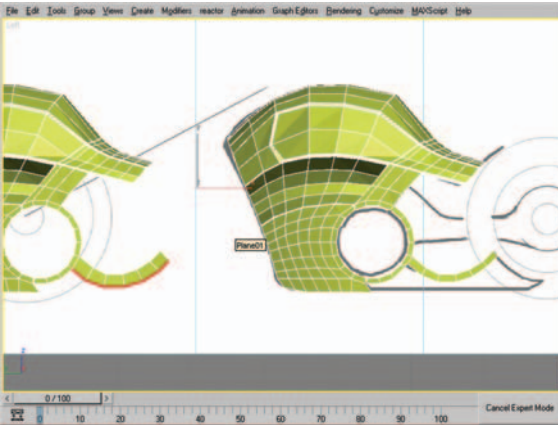

Figure 8.51 Edge selection (left) and mesh after moving edges to create thinner polygons (right).
52. In the left viewport, select the six edges shown in Figure 8.51 (left) and, using edge constraints along with the Move tool, move them upward to make the polygons you just created thinner (Figure 8.51, right).